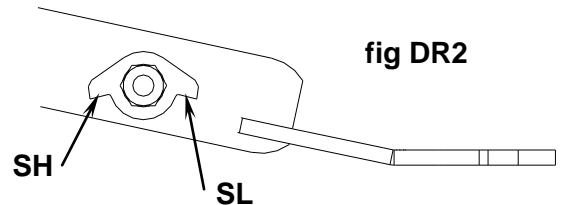

fig DR2
- c) on a derailleur bike, fit the wing plate, WP. Put the spacer SP in place over the boss HXB, and address the wing plate to this boss. The orientation must be as shown in fig DR2: feel the male hexagon start to engage in the wing plate (if necessary, try the wing plate the other way up).